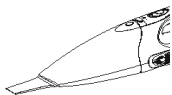

Fig. 7
3. To attach the crevice tool to the hand vacuum, push the attachment into the suction hole in the front of the dust container. (Fig. 7)